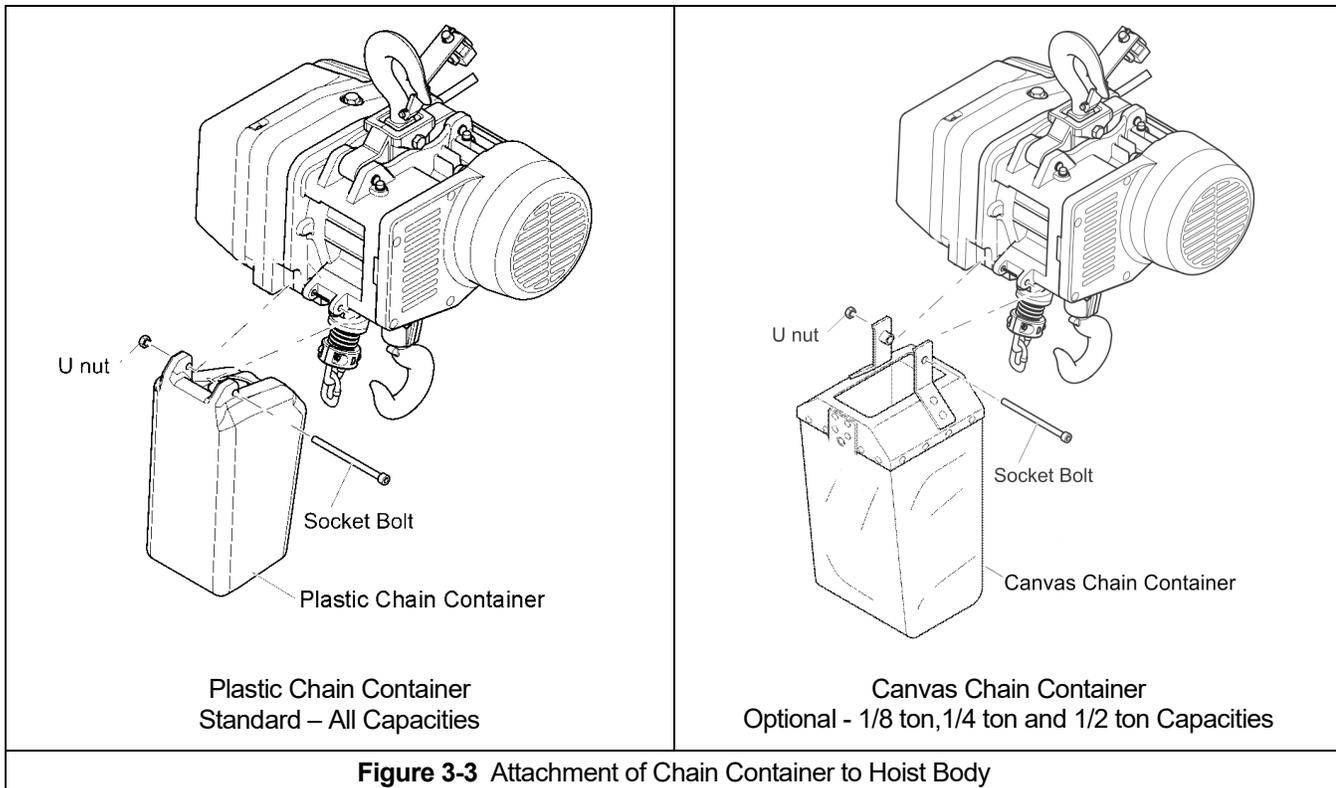

Figure 3-3 Attachment of Chain Container to Hoist Body
3.2.2 Standard Plastic Chain Container (all capacities) or optional Canvas Chain Container (1/8 ton, 1/4 ton and 1/2 ton capacities only). When the optional canvas chain container is selected, fully unfold and install it on the hoist body as shown in **Figure 3-3**. The free end of the chain is not attached to the hoist body and the chain stopper is installed on the third link from the free end (see **Figure 3-1**). To place the chain into the container, feed the free end of the chain into the container. Take care to avoid twisting or tangling the chain. NEVER put all the chain into the container at once. Lumped or twisted chain may activate the down limit switch and stop the hoist during lowering.